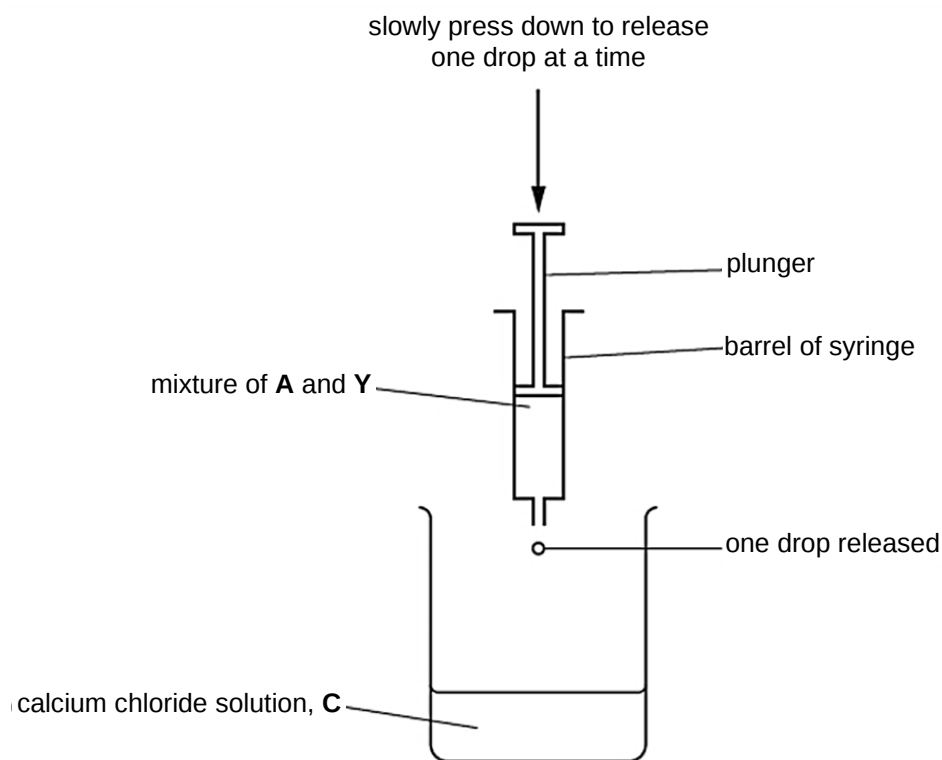

Fig. 1.1
- 6 Hold this syringe over the beaker containing 20 cm³ of **C** (step 4), as shown in Fig. 1.1.